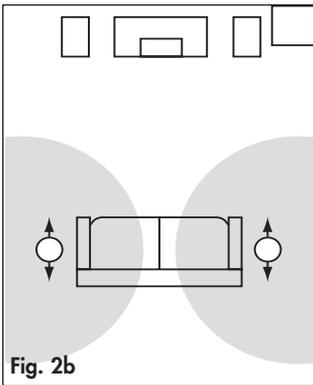

Fig. 2b
5.1-Channel System: Wide Dispersion Surround Placement Using Two Speakers (Fig. 2b)